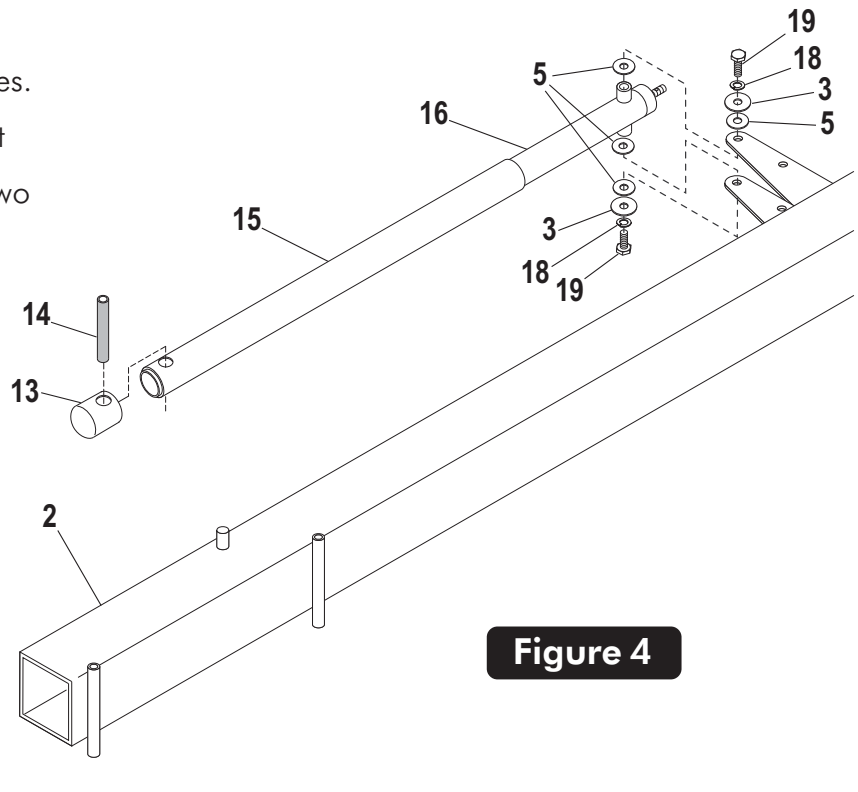

Figure 4
2. If not already pre-assembled, slide Plastic Actuator Sleeve (#15) over Steel Actuator (#16) and place Actuator Cap (#13) on top. **Align holes in all 3 parts** and slide Pivot Tube (#14) through holes in Actuator Cap (#13) Plastic Actuator Sleeve (#15) and Steel Actuator (#16) until equal amounts stick out through both sides of actuator. See **Figure 4**.
3. Lay Pole (#2) on its side on two padded saw horses. Secure Actuator (#16) to Pole (#2) using one bolt (#19), split lockwasher (#18), washer (#3) and two plastic washers (#5) to thread into each side of Actuator. **See Figure 4**. Tighten bolts tight.
4. If not already pre-assembled, insert Pole Cap (#1) into top of Pole (#2). It may be necessary to use a rubber mallet to tap cap in. See **Figure 4**.